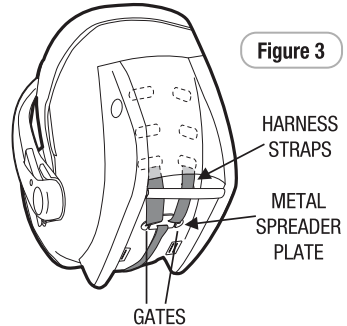

Figure 3
- Step 2:** Turn the restraint around so that the back of the seat is facing you. Remove each shoulder harness through the gates in the spreader plate (refer Figure 3 & 7).